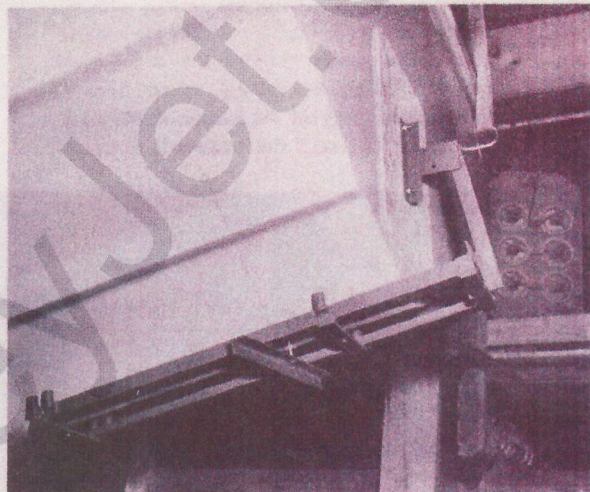

Figure 3
5. Step number 4 may be omitted by using marking template #0203-H-02520 (Figure 3).